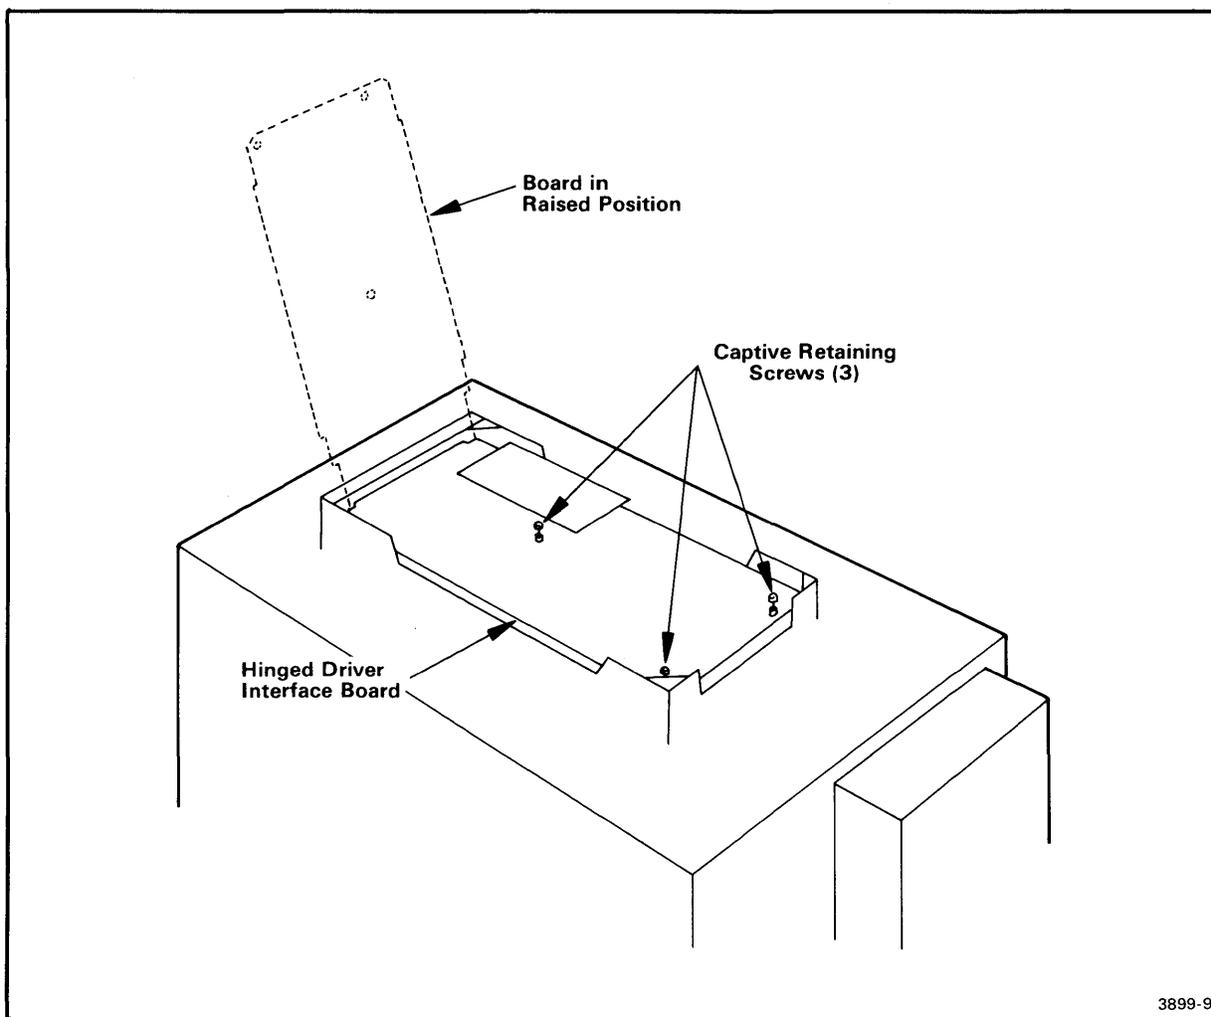

Fig. 2-7. Location of Driver Interface board retaining screws.
1. Using a flat-blade screwdriver, loosen the three captive retaining screws on the hinged Driver Interface board (see Fig. 2-7).